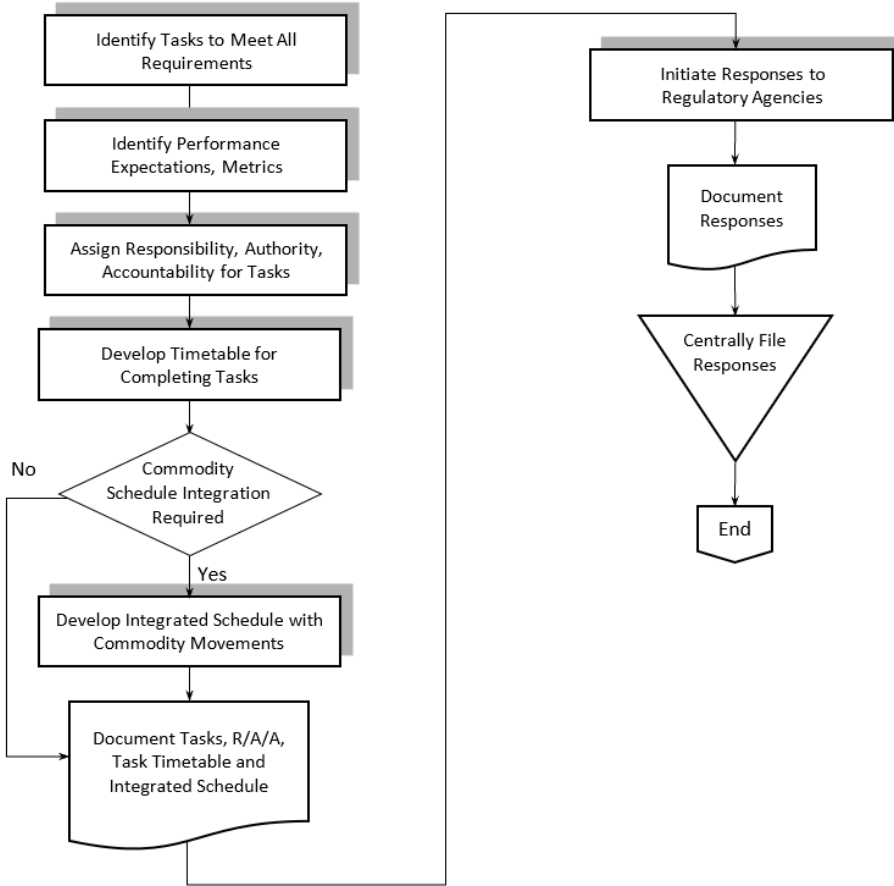

Figure 3
- System to Implement Response Plans (Figure 3)
The **System to Implement Response Plans** (Figure 3) emphasizes that the availability of needed resources and achievement of tasks on schedule are key considerations in this process.